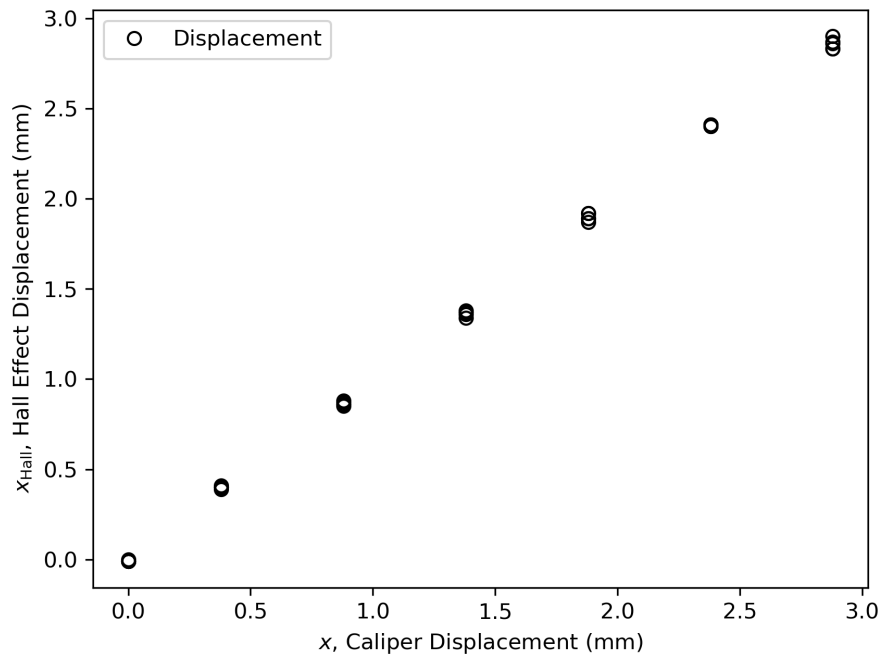

Figure 6: Hall-effect sensor displacement vs. caliper displacement
Using Eq. (2), the Hall-effect sensor displacement was calculated. The table of Hall-effect sensor displacement is shown in Appendix B in Table B.12. The plot of these points is shown in Fig. 6.